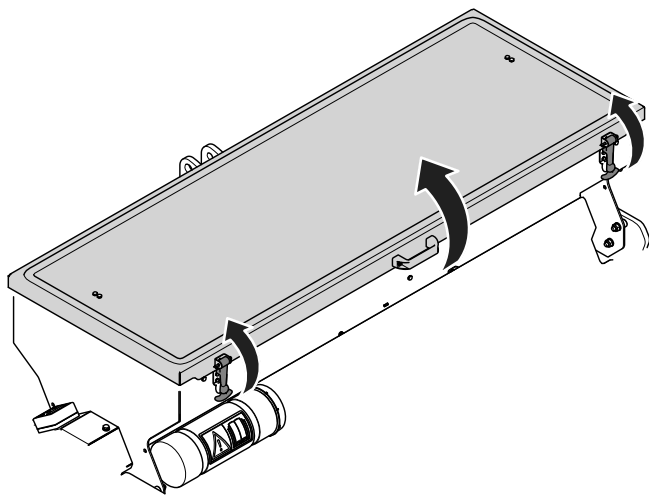

Figure 10
- To open the seed cover, release the rubber latches and use the lid handle to raise the cover (Figure 10).